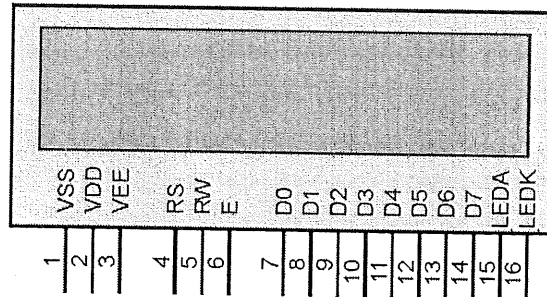

Figure 1: LCD pin out
- a) Figure 1 shows the pin out of the 16x2 LCD. Describe the function of **VSS**, **VDD**, **VEE**, **RS**, **RW**, **E** and data bus (**D0-D7**) at LCD.